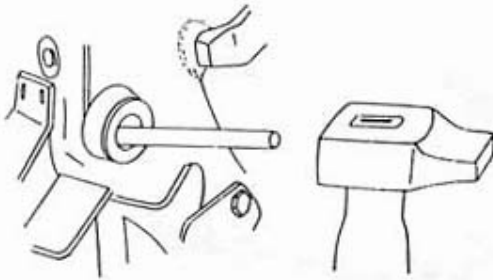

Fig. 3
- Drive the bushing out by using a steel drift punch (12mm) (fig. 3).